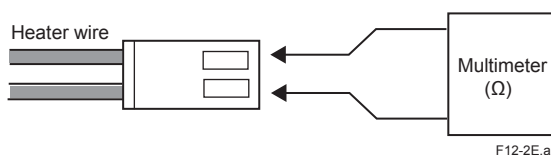

Figure 12.2
- (1) Turn off the power to the equipment.
- (2) Remove the sensor assembly from the probe. Check for dirty or corroded sensor parts, including electrode and contact.
- (3) If the contact part is normal, the sensor assembly may be damaged or deteriorated. Replace the sensor assembly. In this case, be sure to replace the metal O-ring and contact.
- (4) If Err-01 still occurs, check that the sensor and the electronics are properly connected.
- (5) Remove the probe to gain access to the two connectors (four connectors for the optional automatic calibration unit), as indicated in Figure 12.2. Check these connectors are properly connected.
- (6) If Err-01 still occurs, the electronics may be defective. Contact your local Yokogawa service or sales representative.
- (1) Turn off the power to the analyzer.
- (2) Remove the probe from the analyzer. Also remove all the connectors between the converter and probe. Measure the resistance of the heater wire (yellow wire) from the probe as indicated in Figure 12.2. The heater assembly is normal if the resistance is lower than about 90 Ω. If the resistance is higher than that value, the heater assembly may be defective. In this case, replace the heater assembly (refer to Subsection 11.1.3, "Replacement of the Heater Assembly").